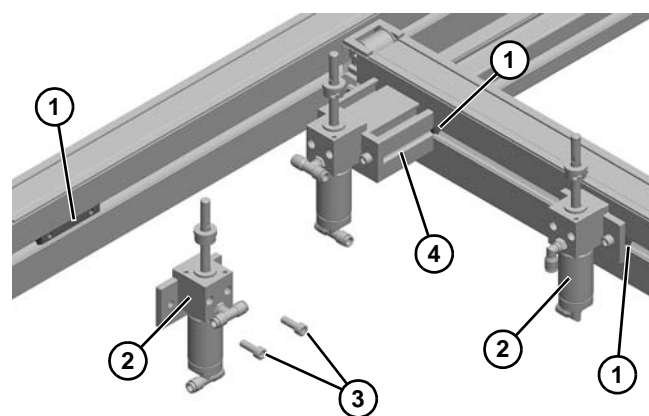

**Figure 84**
1. Install mounting plate (**Figure 84, item 1**) to cylinder (**Figure 84, item 2**) with flat head cap screws (**Figure 84, item 3**).
2. Install clamp collar (**Figure 84, item 4**) and washer (**Figure 84, item 5**) onto shaft.
3. On five cylinders, install two male tee branches (**Figure 84, item 6**) each. On one cylinder, install two male elbows (**Figure 84, item 7**) each.